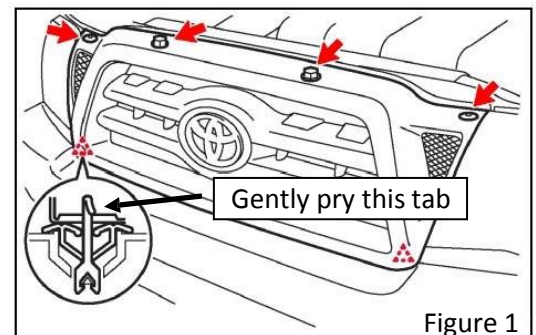

Figure 1
2. Remove the two screws securing the top center of the radiator grill. See **Figure 1** at right.
3. Using a clip remover or a flat head screwdriver, carefully remove the 2 clips on the top outer corners of the radiator grill. See **Figure 1** at right. Gently pry up on the center button of the clip to release.
4. Release the lower corner grill clips from the back side of the grill (radiator side). The location of these clips are indicated by a dotted triangle in **Figure 1**. Gently pry the tab on top sideways to release the grill from the clip.